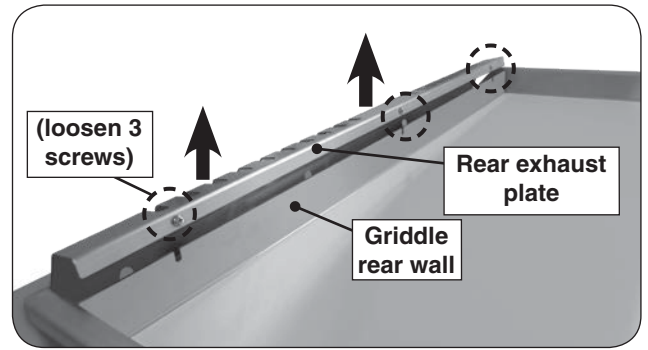

Fig. 31-1 Rear exhaust plate removal
1. Remove the rear exhaust plate by loosening the three bolts and nuts (do not disassemble), then lift the panel up from the griddle top (see Fig. 31-1).